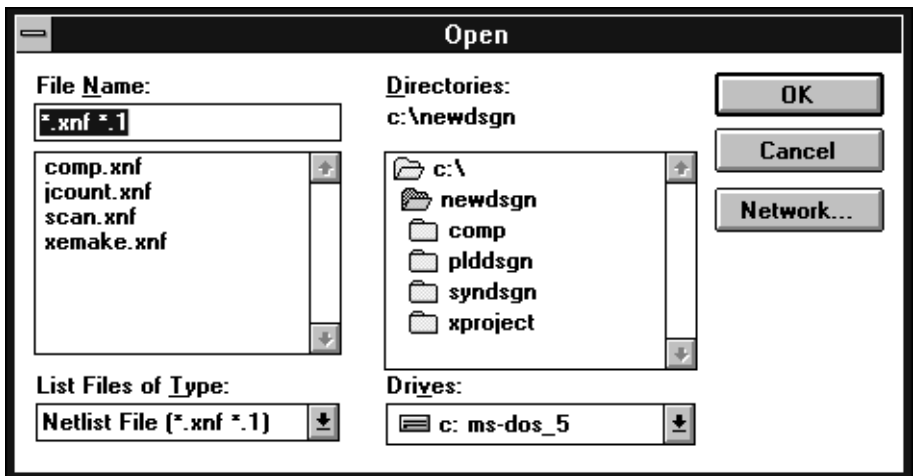

Figure 2-5 The Open Dialog Window
1. Enter a project name in the Input Design dialog box. Or, click on Browse and you will see the Open dialog window as shown in Figure 2-5. From here you can select a design file to input.